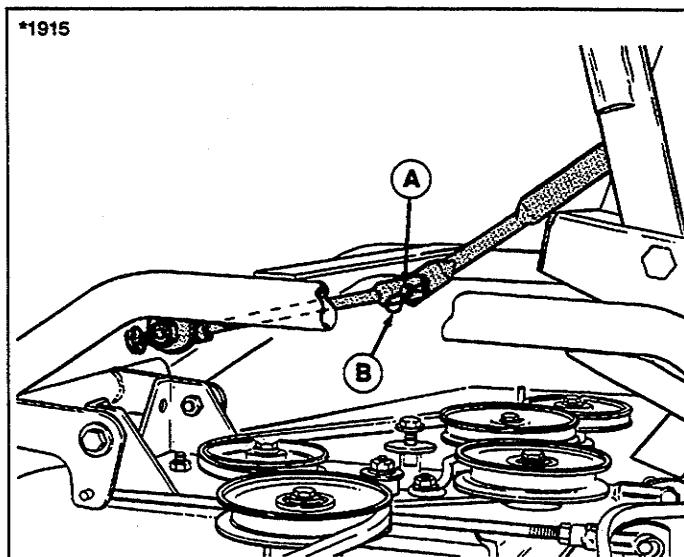

Figure 7. Lift Arm Halves
5. Connect top and bottom halves of mower lift arms. See figure 7.
6. See figure 7. Disconnect the top and bottom halves of the mower lift arm. Install spring clip onto weld stud.